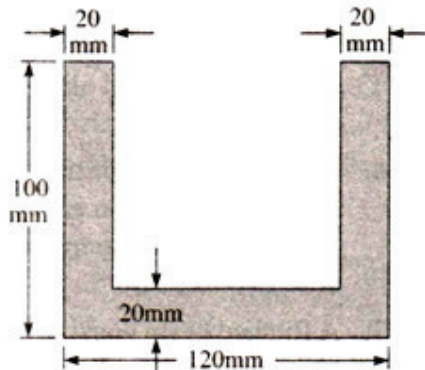

Figure 3
4. A horizontal beam of the section shown in Figure 3, is 3 and 4 meters long and is simply supported at the ends. Find the maximum uniformly distributed load it can carry if the compressive and tensile stresses must not exceed 60 N/mm^2 and 30 N/mm^2 respectively. Draw a diagram showing variation of stress over the mid span section of the beam.